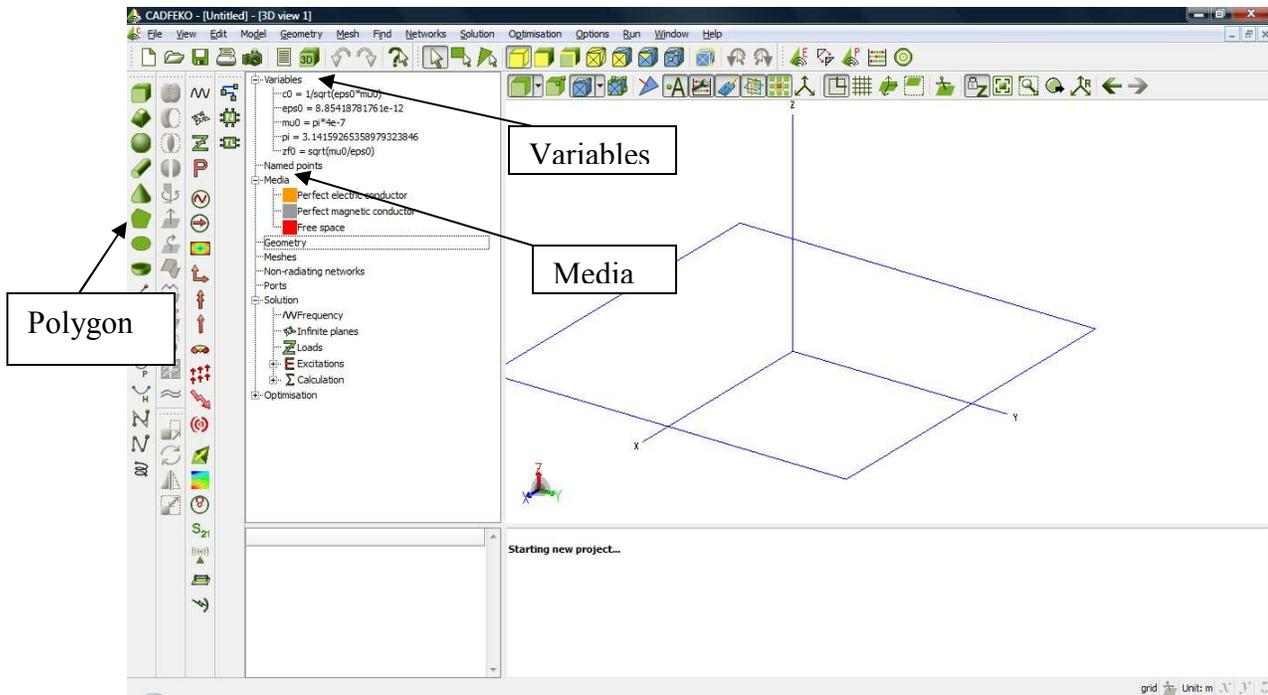

Figure 2.
2. Open your “CAD FEKO” program. You will have a window as in Figure 2.